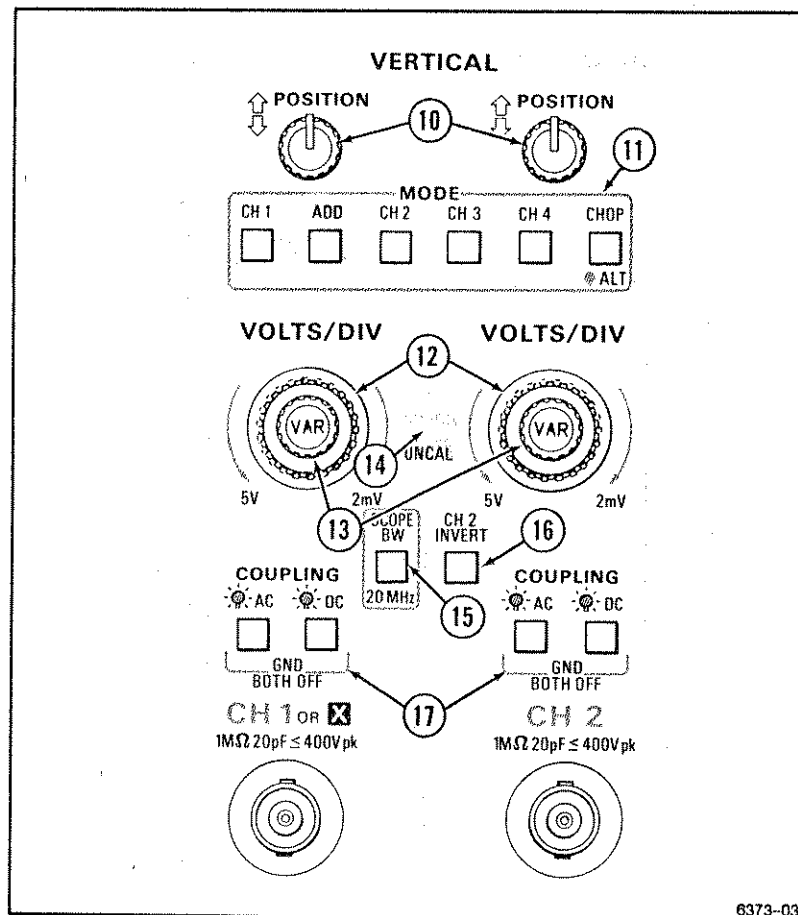

Figure 2-2. CH 1 and CH 2 vertical controls and indicators.
Refer to Figure 2-2 for location of items 10 through 17.
- ⑩ **CH 1 and CH 2 POSITION Controls**—Adjust vertical position of the Channel 1 and Channel 2 waveform displays.
- ⑪ **MODE Buttons**—Select the vertical channels for display (CH 1, ADD channels 1 and 2, CH 2, CH 3, and CH 4). The CHOP/ALT MODE button selects method for switching input channels on the display (chopped or alternating).